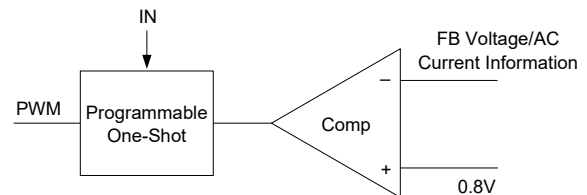

Figure 2. Simplified Control Schematic of AOZ2253EQI-30
The control algorithm of AOZ2253EQI-30 is constant-on-time PWM control with input feed-forward. The simplified control schematic is shown in Figure 2. The high-side switch on-time is determined solely by a one-shot whose pulse width is inversely proportional to input voltage (IN). The one-shot is triggered when the internal 0.8V is higher than the combined information of FB voltage and the AC current information of inductor, which is processed and obtained through the sensed low-side MOSFET current once it turns-on. The added AC current information can help the stability of constant-on time control even with pure ceramic output capacitors, which have very low ESR. The AC current information has no DC offset, which does not cause offset with output load change, which is fundamentally different from other V^2 constant-on time control schemes.